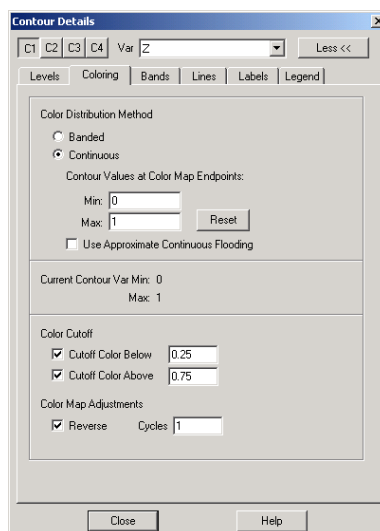

Figure 10-7. The Coloring page of the Contour Details dialog.
Although the color map is global, affecting all frames, there are some adjustments you can make that apply only a contour group in the current frame. These adjustments allow you to customize the look of a single contour plot without changing the global color map. Adjustments to the color map for individual frames are made from the Coloring page of the Contour Details dialog, shown in Figure 10-7.
1. Select the Contour tool from the sidebar, or choose Contour from the Plot menu. Go to the Coloring page of the Contour Details dialog, as shown in Figure 10-7.